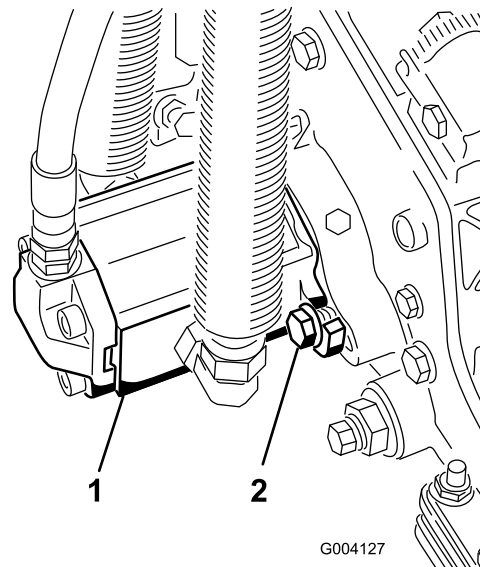

**Figure 13**
12. Secure the lift arm chain to the chain bracket with the snapper pin (Figure 13). Use the number of chain links described in the cutting unit *Operator's Manual*.